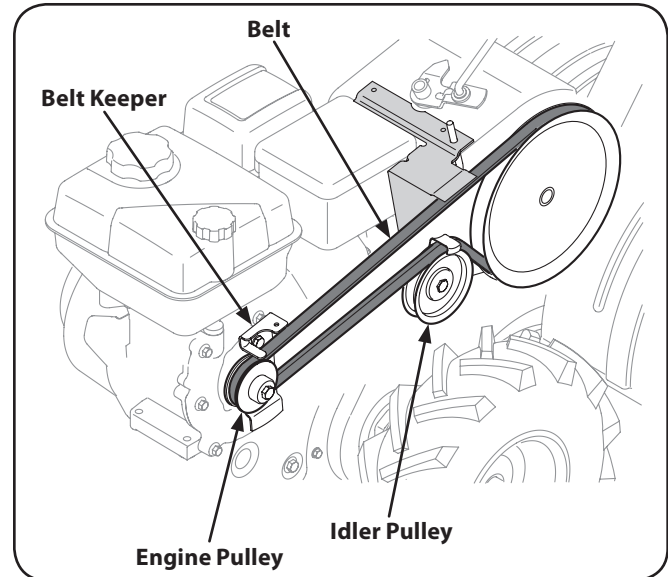

Figure 7-2
4. Remove the belt keeper assembly located behind the engine pulley by removing the two hex bolts and lock washers.. See Fig. 7-2.
5. Remove the idler pulley by removing the bolt and nut. See Fig. 7-2.
6. Remove the old belt and install the new belt. Follow the instructions in reverse order to re-install the belt keeper and belt cover. See Fig. 7-2.